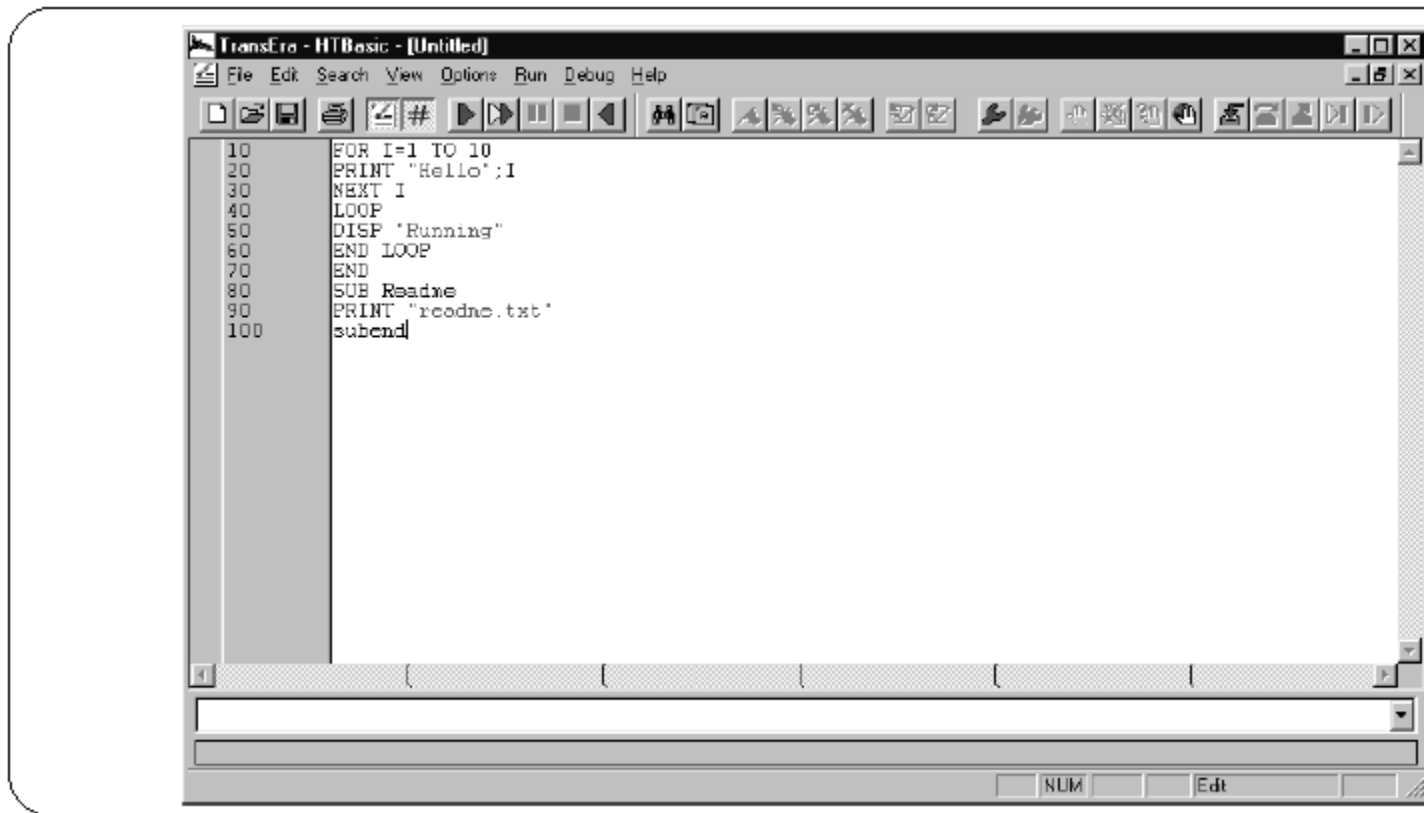

Figure 2-2. Example: Creating a Program
2. Type EDIT, and the program lines shown in Figure 2-2 from the keyboard. Begin typing at the **caret** (the blinking _ icon) on the program window. Press the **Enter** key after entering each line of code. If you make a typing mistake, backspace and retype.